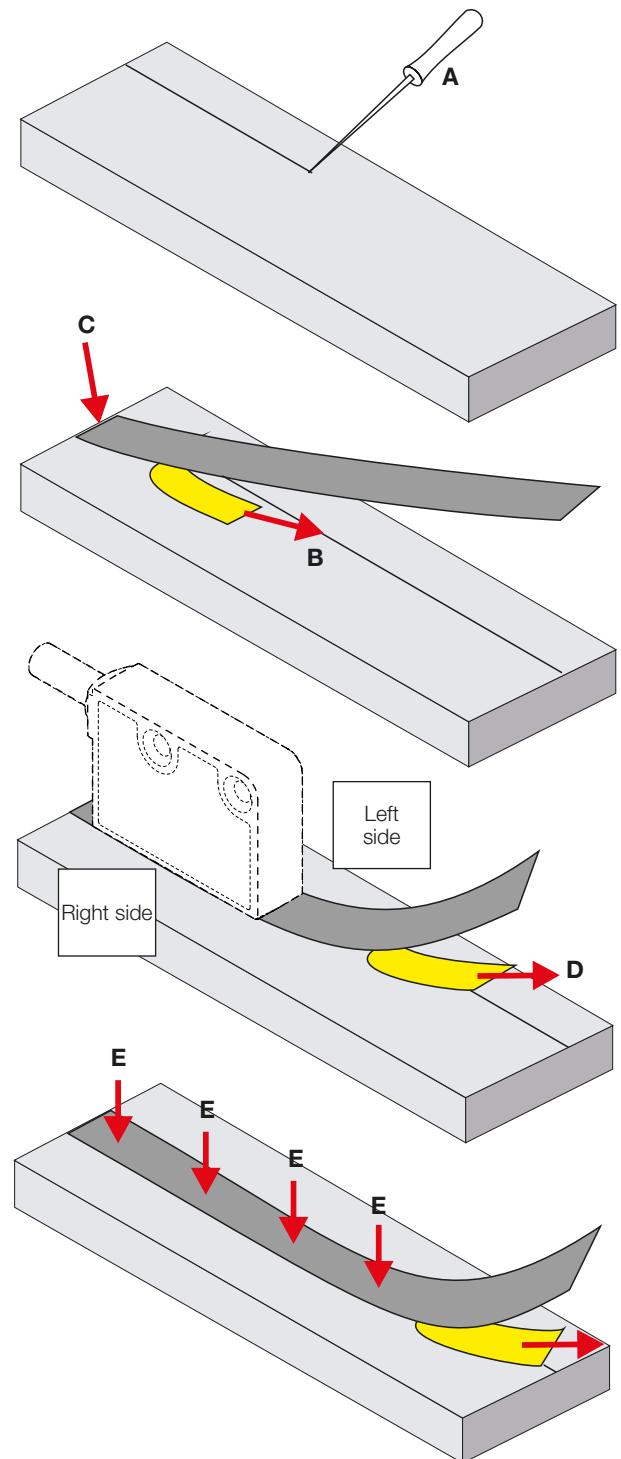

Fig. 4-4: Fastening the tape to a flat surface
1. Mark the reference edge of the tape on the machine part (Fig. 4-4, A).
For the system to function, the reference track of the tape must lie on the right side of the sensor head (Fig. 4-4).
4. Pull back the film from the back end of the tape (Fig. 4-4, B), align the tape and lightly attach the tape (Fig. 4-4, C).
5. Remove another section of film (Fig. 4-4, D), align the tape and gently press down (Fig. 4-4, E).